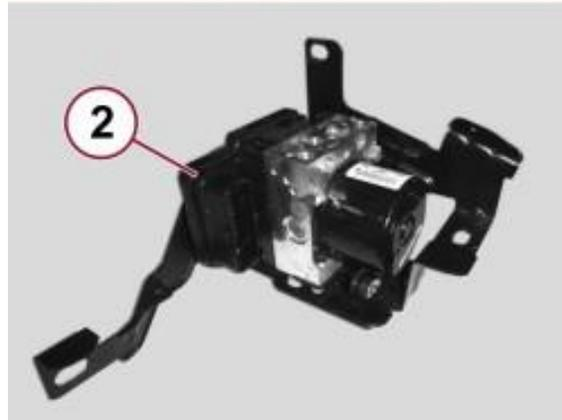

Figure 13 – ABS Bracket Assembly
22. Open the retaining bands (1a) and release the front windscreen washer pipe (1b) (Figure 13).
23. Remove the bracket / ABS control unit assembly (2) from the left side wheel arch (Figure 13).